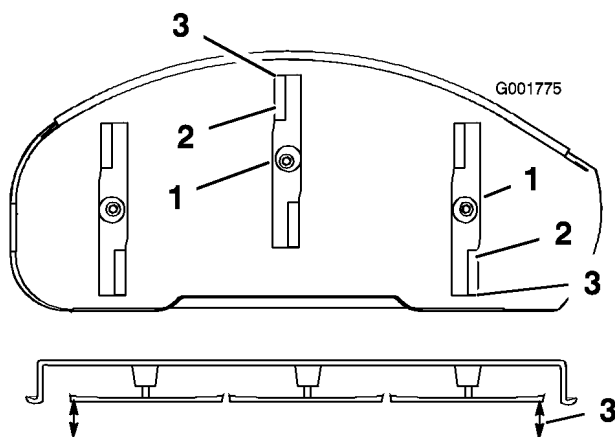

Figure 44
9. Set the height-of-cut at 3 inch (76 mm) and carefully rotate the blades so they are facing front to rear (Figure 44).
10. Measure from the tip of the front blade to the flat surface and the tip of the rear blade to the flat surface (Figure 44). If the front blade tip is not 1/16-5/16 inch (1.6-7.9 mm) lower than the rear blade tip, adjust the front locknuts.
1/16-5/16 inch (1.6-7.9 mm) lower than the rear blade tip (Figure 44).